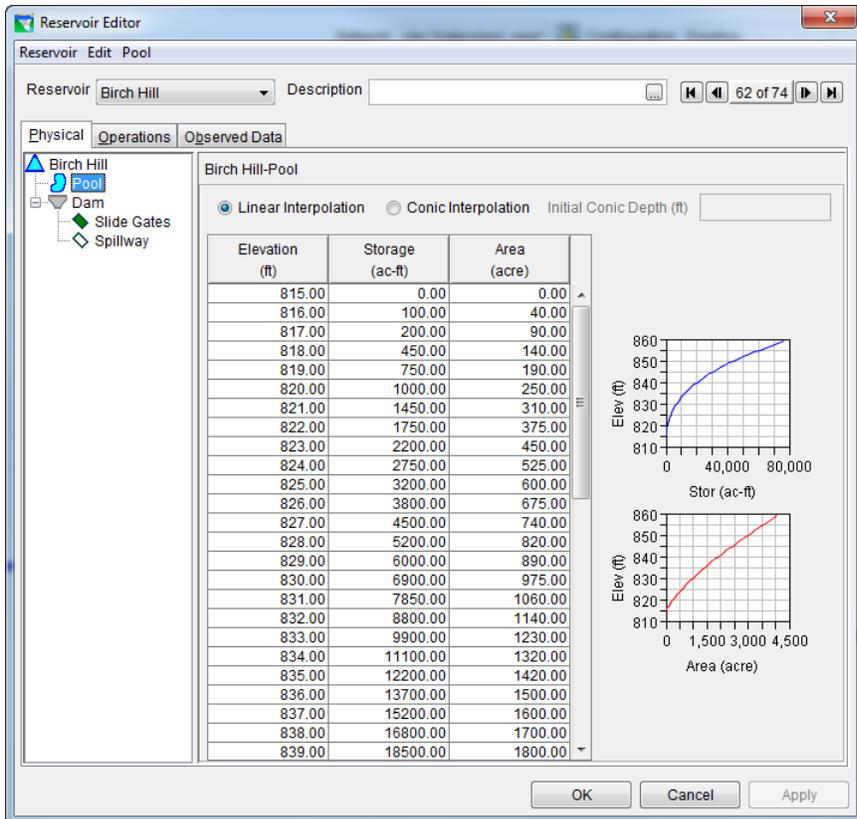
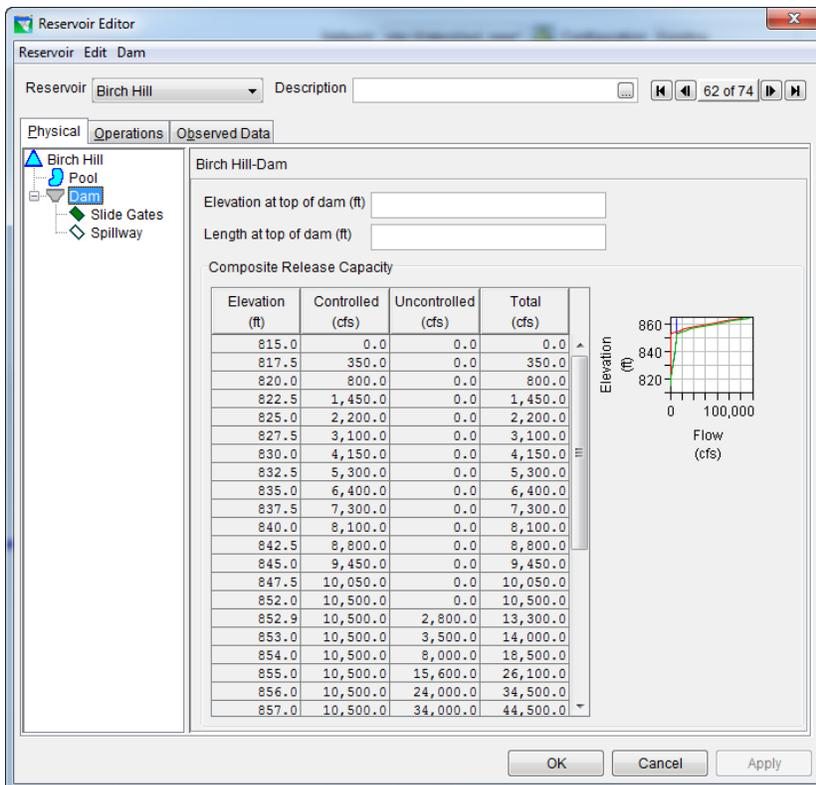

Figure 3: Reservoir Editor: Physical Tab -- Pool
Figure 4: Reservoir Editor: Physical Tab -- Dam
The physical characteristics of the reservoir are separated between the Pool and the Dam in the HEC-ResSim model. The elevation-storage-area defines the pool as shown in Figure 310. The dam consists of a controlled outlet and an uncontrolled spillway as shown in Figure 4.
The physical characteristics of the reservoir are separated between the Pool and the Dam in the HEC-ResSim model. The elevation-storage-area defines the pool as shown in Figure 3. The dam consists of two types of outlets: (1) controlled slide gates, and (2) uncontrolled spillway, as shown in Figure 4. All physical and operations data were provided by US Army Corps New England District, through both a previously created ResSim model and the Reservoir Regulation Team website11.